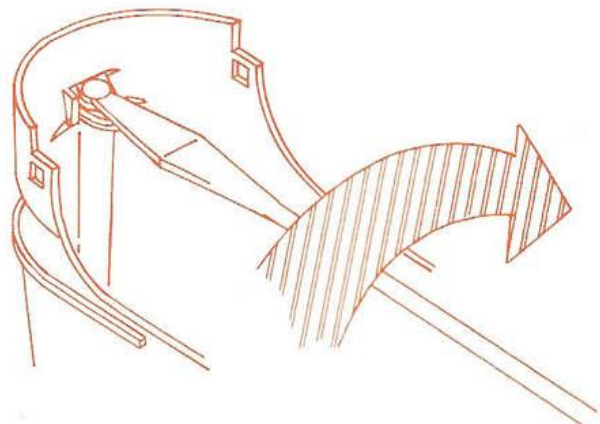

FIGURE 4
a. Insert small, flat screwdriver blade under head of pin and twist screwdriver to remove pin (see figure 4).